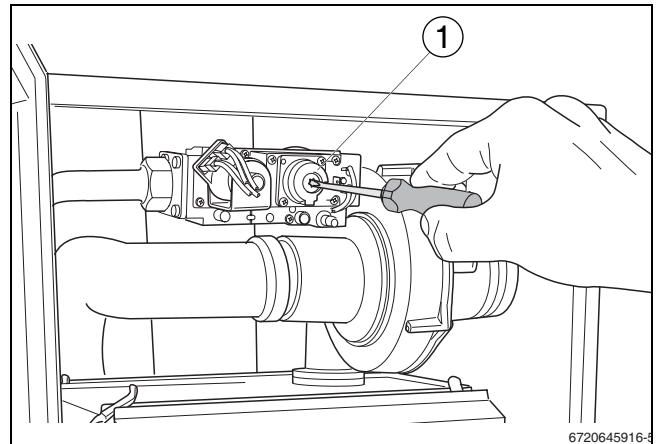

Fig. 17 Adjusting gas/air ratio
- If necessary: adjust the CO₂ Percentage to the calculated value, by means of the air/gas ratio adjustment screw fig. 17, [1]). The adjustment screw is located behind the screw plug.